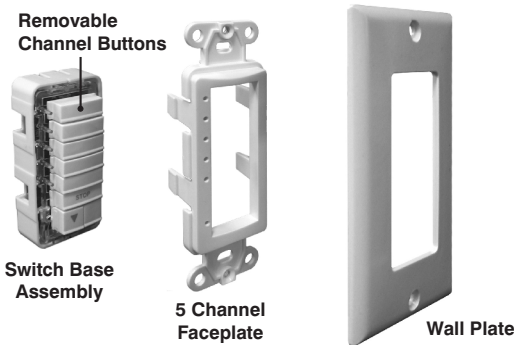

Figure 1.
2. Select a Channel to be memorized by pressing the appropriate CHANNEL BUTTON. The adjacent LED will light to indicate the channel has been selected. (See figure 1)
3. Using a paperclip or similar device, briefly press the programming button (**1 second max**) located on the DecoFlex WireFree™ switch (See figure 1). The RTS receiver or motor will confirm the addition of the new DecoFlex switch in their respective manners.
2. Select a **NEW** channel or DecoFlex switch to be memorized by pressing the appropriate CHANNEL BUTTON. The adjacent LED will illuminate to indicate the channel has been selected (See figure 1).
3. Using a paperclip or similar device, briefly press the programming button (**1 second max**) located on the DecoFlex switch (See figure 1). The RTS receiver or motor will confirm the addition of the new channel or DecoFlex switch in their respective manners.
1. Using a paperclip or similar device, press and hold the program button (for 3 seconds) on a **previously addressed DecoFlex switch or channel in memory** (See figure 1). **NOTE:** This **SHOULD NOT** be performed with the device or channel intended for deletion. The RTS receiver or motor will confirm programming mode in their respective manners.
2. Select a Channel to be deleted by pressing the appropriate CHANNEL BUTTON. The adjacent LED will illuminate to indicate the channel has been selected (See figure 1). **NOTE: Only one channel can be deleted per procedure.** To remove/delete additional channels, proceed to **Step 3** then start at **Step 1** for each channel to be deleted.
3. Using a paperclip or similar device, briefly press the programming button (**1 second max**) located on the DecoFlex switch (See figure 1). The RTS receiver or motor will confirm the deletion of the selected channel or DecoFlex switch in their respective manners.
1. Begin with a standard (assembled) 1 or 5 channel button DecoFlex switch - Using a small flat blade screw driver, carefully separate the SWITCH BASE ASSEMBLY from the FACEPLATE (as shown in figure 1).
1. Using a small flat blade screw driver, carefully separate the SWITCH BASE ASSEMBLY from the FACEPLATE (as shown in figure 1).